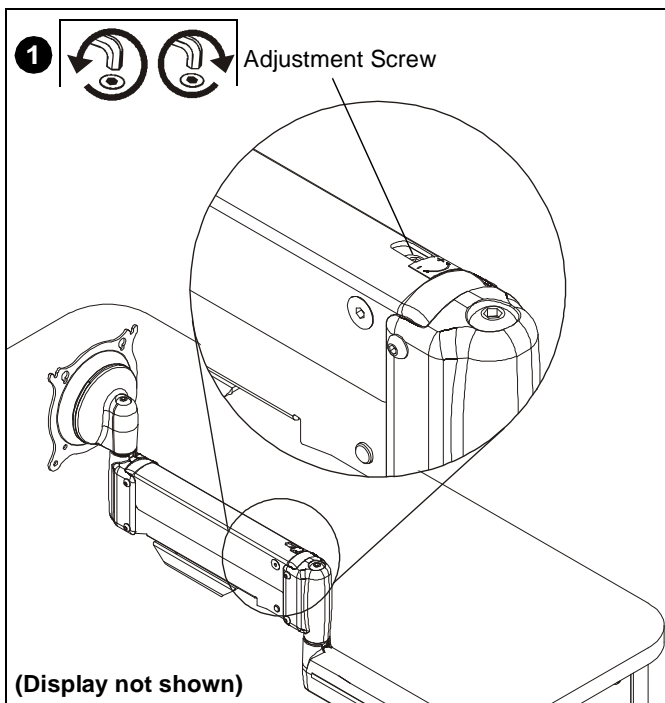

Figure 9
1. Using 3/32" hex key (T), slightly loosen or tighten the adjustment screw as necessary (See Figure 9).